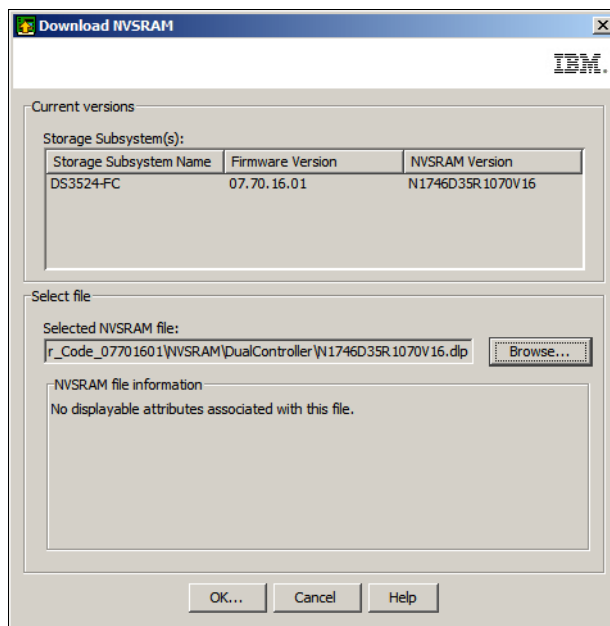

Figure 14-57 Download NVSRAM with NVSRAM file selected
- Click the **Browse** button to select the appropriate NVSRAM file (either single controller or dual controller NVSRAM) for your DS3500 storage system (Figure 14-57).